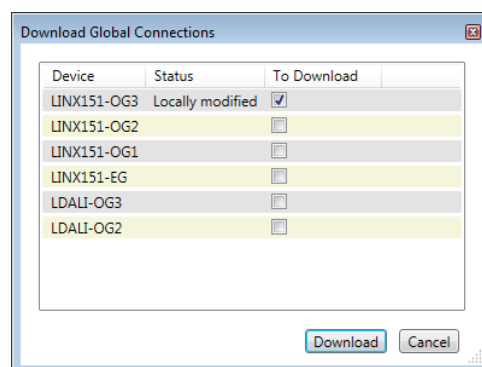

Figure 195: Download Global Connections
2. Select the devices to which the global connection information should be downloaded. Per default only devices for which the global connection configuration changed since the last download are selected. You can change the selection by activating/deactivating the checkboxes beside the devices (see Figure 195).